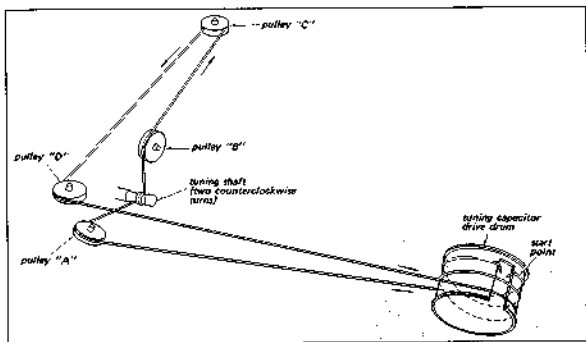

Fig. 2-8. Dial cord stringing
While referring to Fig. 2-8, proceed as follows:
- Run the cord over pulleys "B", "C" and "D", then wrap two clockwise turns around the drum from outer groove to inner groove as shown in Fig. 2-8.
- Pass the doubled end of the cord through the eyelet, then hook it to the coil spring as shown in Fig. 2-8.